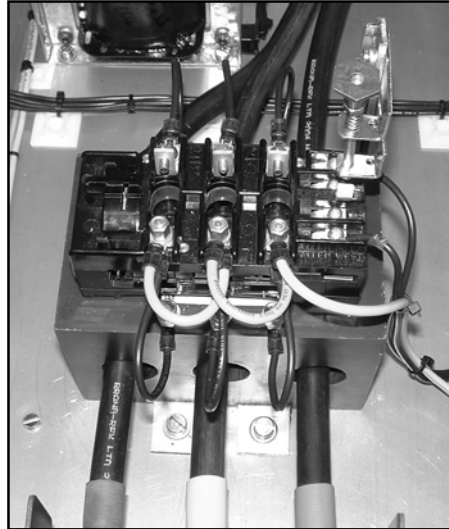

Fig. 1
The current transformer (CT) should be mounted firmly on a flat surface (See Fig. 1). When the overload is attached to the C.T. the unit must be mounted in the correct attitude i.e. on a vertical surface with terminal markings readable from the front.